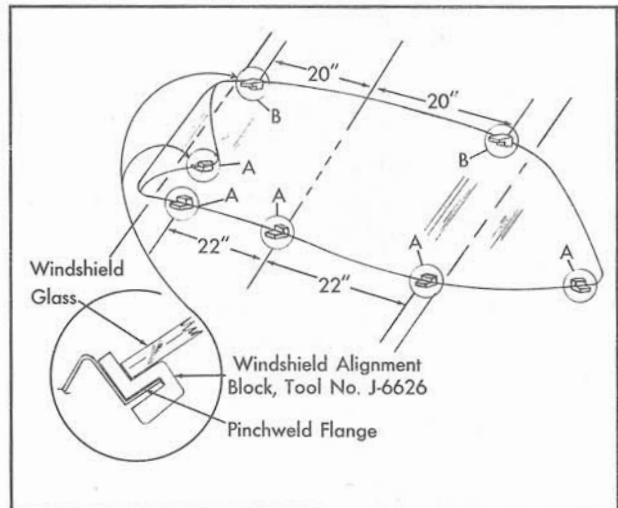

Fig. 17-5 Checking Windshield Glass to Pinchweld Alignment
3. Check new windshield glass to opening by supporting glass with Windshield Alignment Blocks, Tool No. J-6626, as shown in Fig. 17-5.